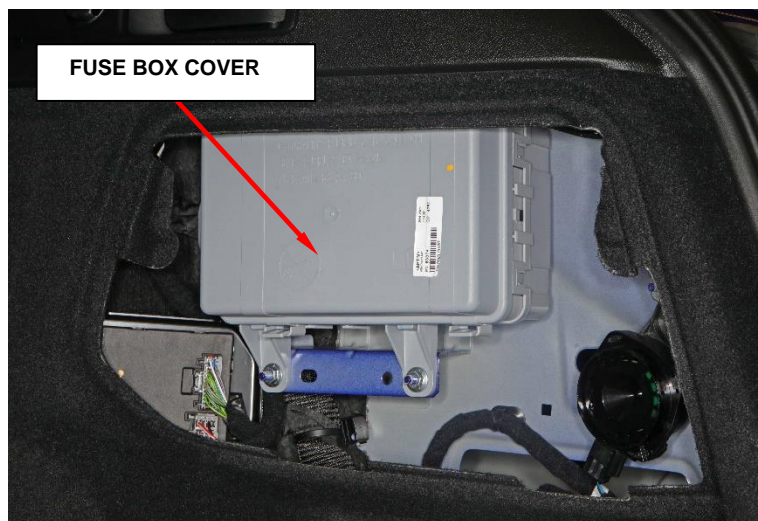

Figure 2 – Fuse Box
4. Remove the fuse box cover (Figure 2).